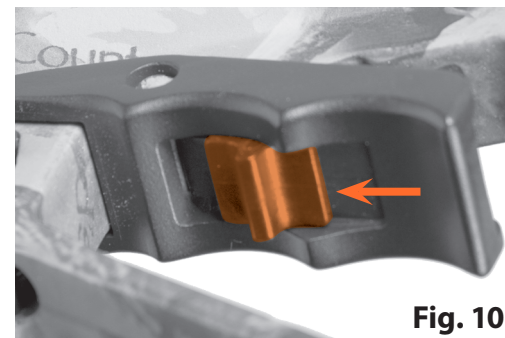

Fig. 10
4. To lock the desired setting in place, locate the locking tab on the adjustment lever and slide it into place. To unlock, follow this step in reverse (Fig. 10).